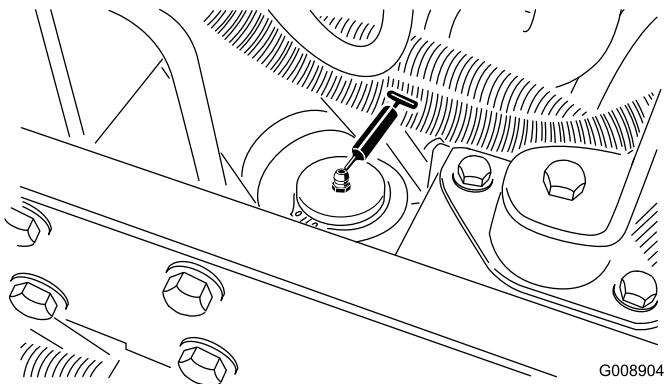

Figure 54
- Steering cylinder (Figure 54).